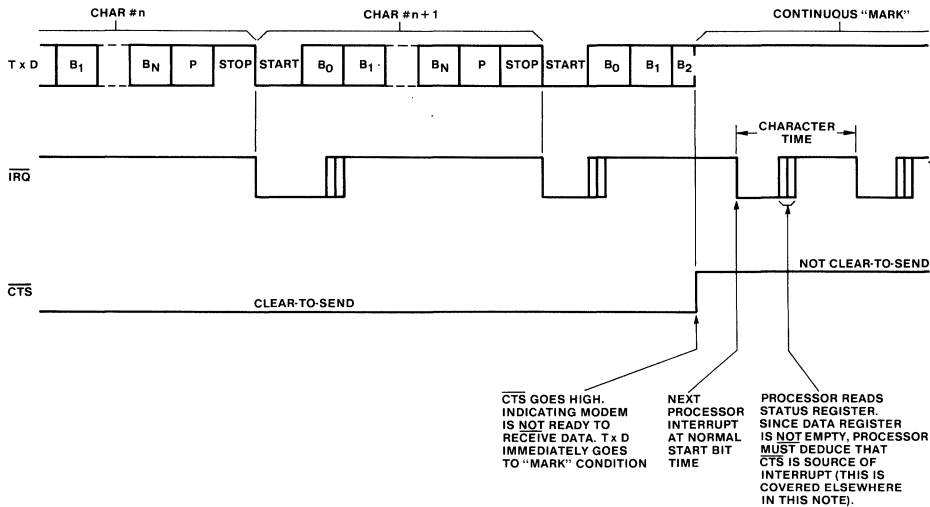

Fig. 11 - Effect of CTS on transmitter.
**Effect of CTS on Transmitter (Fig. 11)**